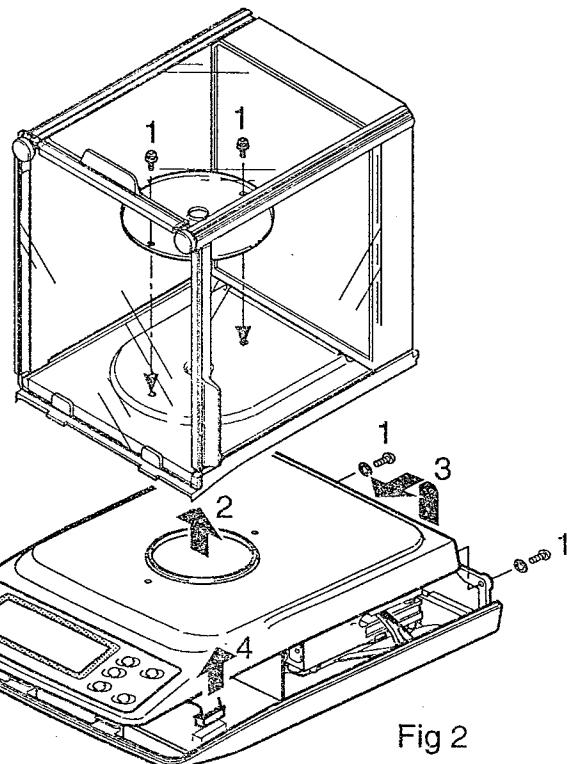

Fig 2
Step 1. Remove the breeze break and the upper case. Use caution when lifting the upper case off as the keyboard cable must be disconnected (Fig 2).